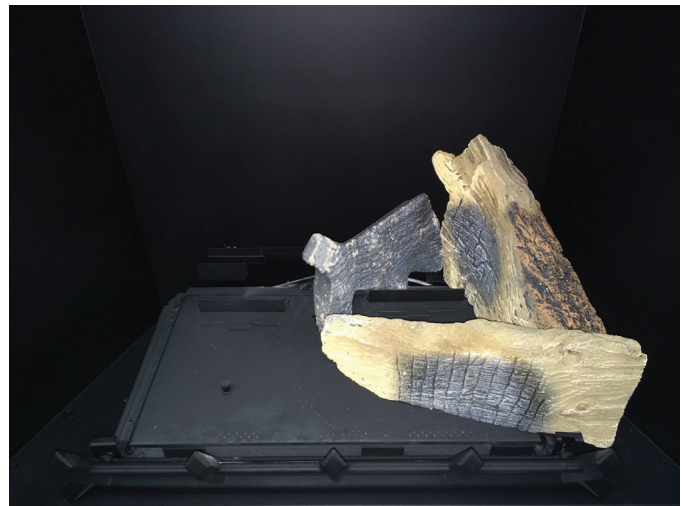

Figure 27.
3. Place the middle rear log #3 with the center log placed behind the right flame bracket. The rear log will rest on the back log support. Figure 27